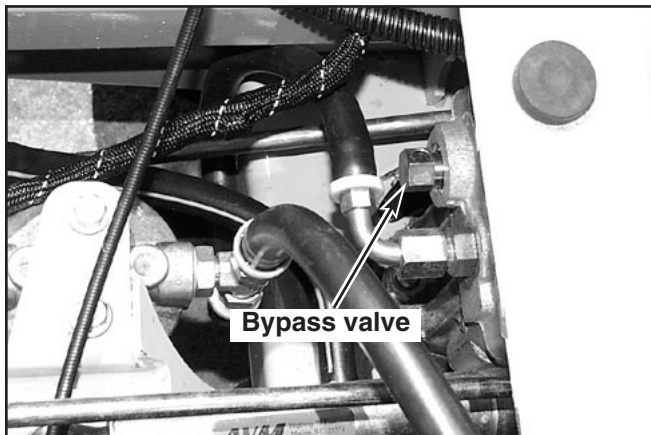

Figure 11-25
3. Open the hydraulic pump's bypass valve (Fig. 11-25), on the side that is being adjusted, by turning bypass valve counter clockwise one-half to one revolution. The valve stems on each hydraulic pump are located near the top and are identified as a hex stud.